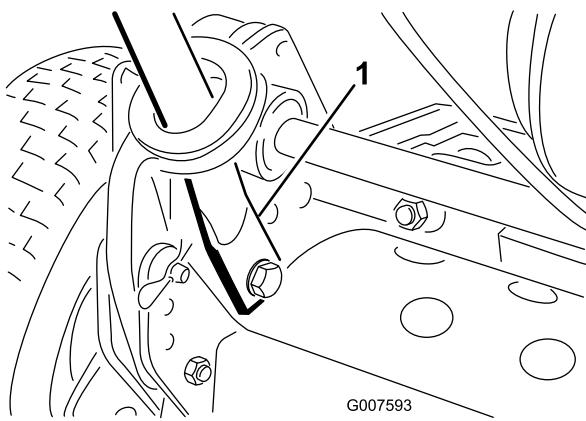

Figure 3
- Squeeze the handle ends inward and install them on the mounting pins (Figure 3).
- Secure the handle ends to the mounting pins with the bolts, washers, and lockwashers previously removed (Figure 3).
- Secure the bottom of handle arms to each side of the mower with the bolts and locknuts previously removed (Figure 3). Ensure that you install the bushings in the handle arm mounting holes.
- Secure the handle arms to the rear of the frame with the hairpin cotters and ring pins previously removed (Figure 3).